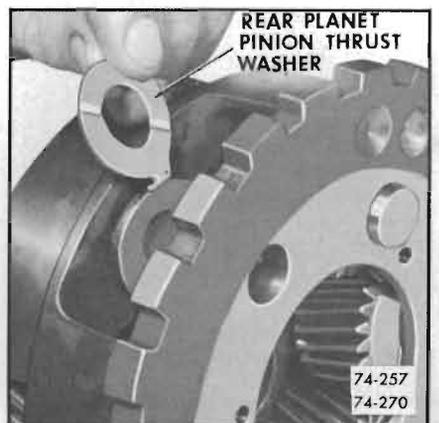

Figure 74-270
9. Install the rear planet pinion thrust washer. Oil groove must be toward pinion gear. See Figure 74-270.